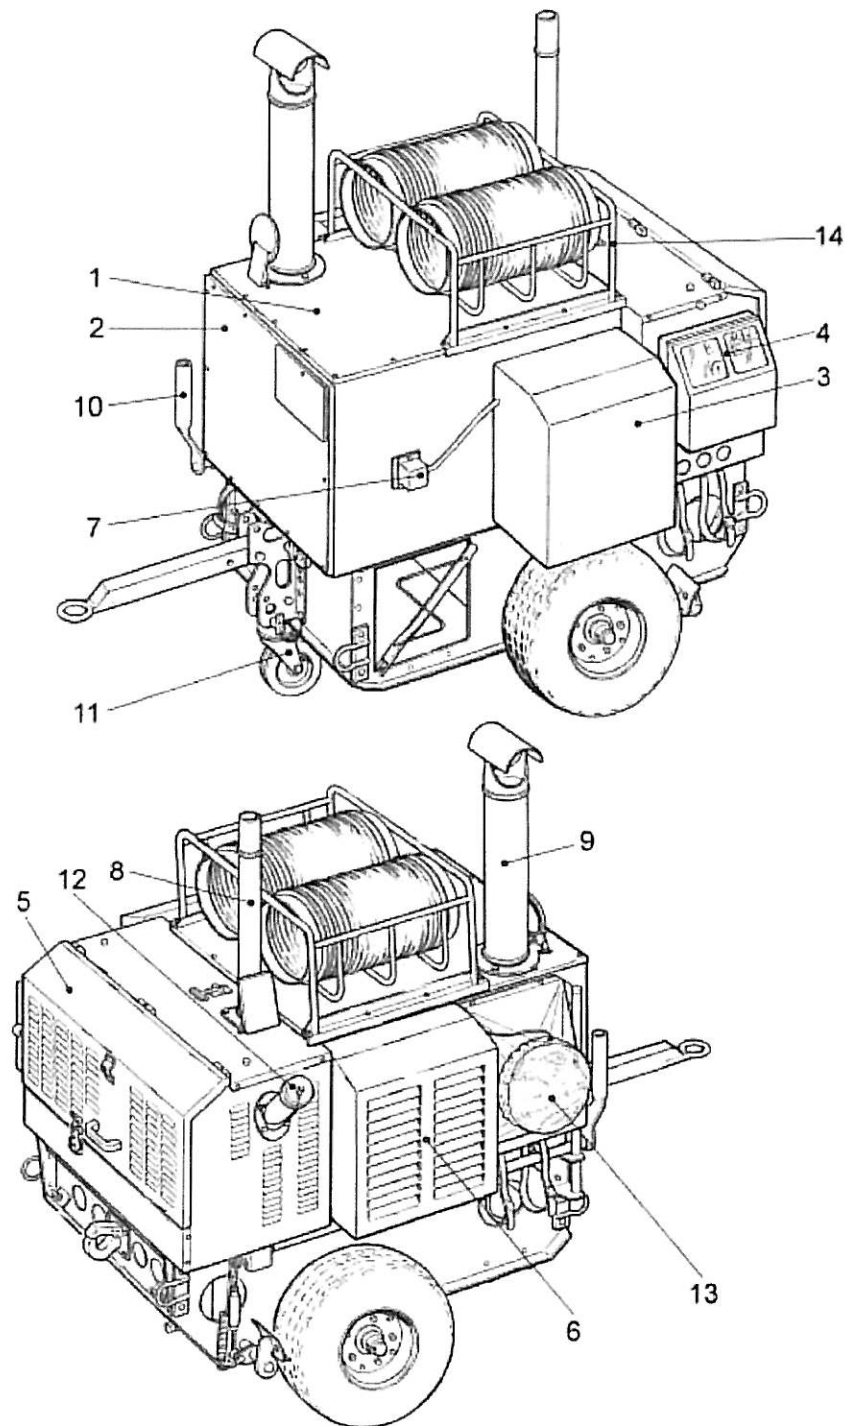

FIGURE 6-2. PORTABLE DIESEL HEATER VIKING 400
6.3.1 Beginning with figure 6-2 and its associated parts list, the Viking is broken down into major components, assemblies and detail parts, each figure and listing comprising a maintenance parts list (MPL). In general, parts are listed in disassembly order as described in Chapter 5. In some instances, assemblies are shown as assembled on one figure and as an exploded view on another figure. In these cases, the parenthetical note in the parts list, "(See figure X for breakdown)" refers to the illustration and parts list on which the detail parts are to be found. The parenthetical note, "(see figure X for NHA)" – that is the next higher assembly – indicates the figure and list where the item is shown and listed in assembled form.
1. DUCT BASKET (14, FIGURE 6-2) IS FACTORY INSTALLED BEGINNING WITH SERIAL NUMBER 2112-04-2356. FOR PART NUMBER REFER TO DUCT BASKET (4, FIGURE 6-3).